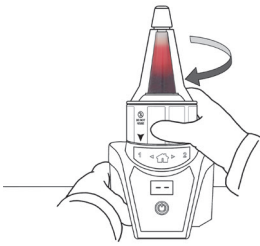

Figure 8
- Following the 60-second countdown, rotate the Disposable Unit ▼ to Position 1 to start the red blood cell removal mode (Figure 8).